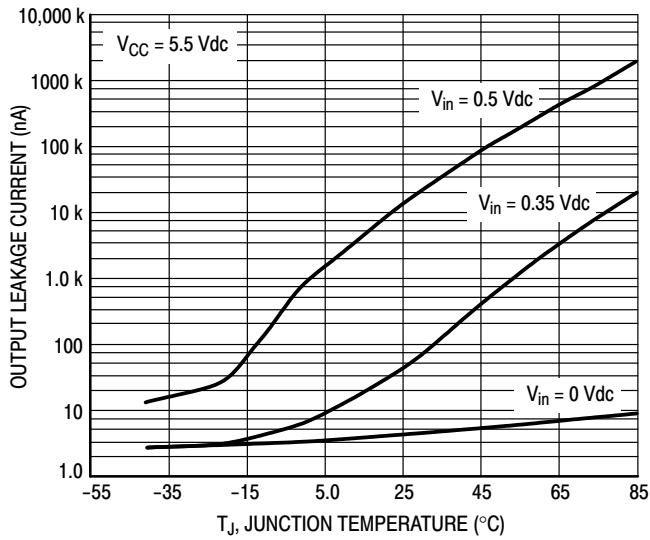

Figure 8. Output Leakage Current versus Temperature
8. Using Figures 8 and 9, insure that "OFF" state leakage over temperature and voltage extremes does not violate any system requirements.